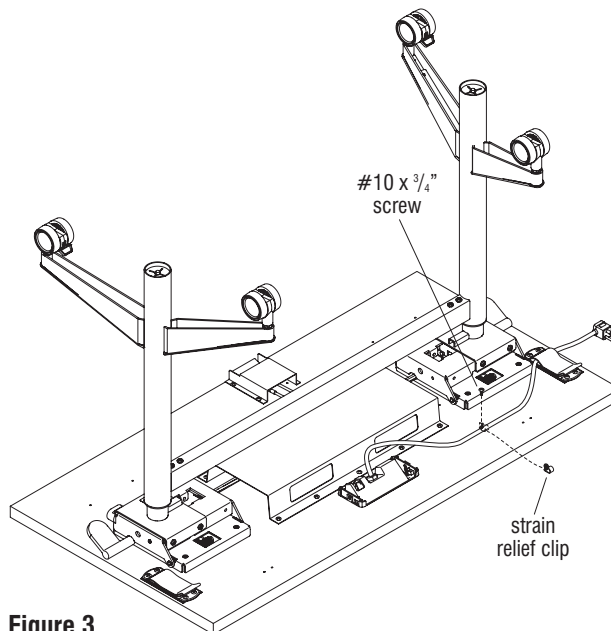

Figure 3
3. Insert the cable into the openings of the clips. Secure the clips to the tabletop using one  $\#10 \times \frac{3}{4}$ " screw per clip (Figure 3 & Detail A).